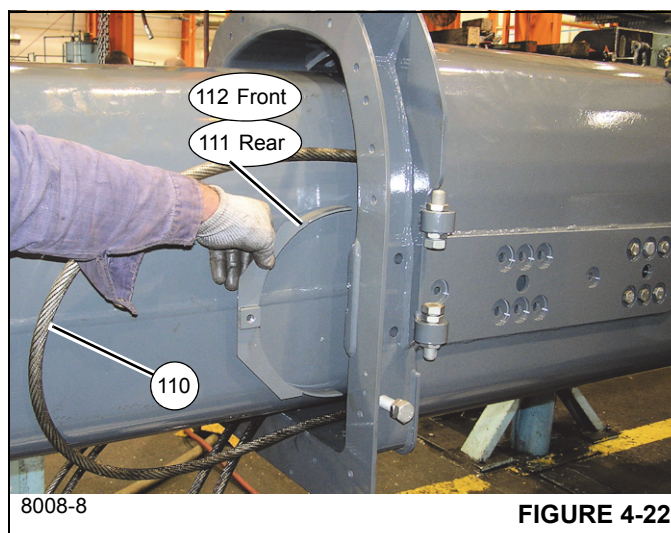

FIGURE 4-22
73. Extend tele 4 (5) one-quarter of the way out of tele 3 (4).
74. Remove the grease fitting (106) from each of the four shafts (104).
75. Remove the capscrew (113) securing the front guard weldment (112) over the tele 4 extend cable (110) (left and right sides) (see Figure 4-22).
78. Remove capscrew (113) securing the rear guard weldment (111) over the tele 4 extend cable (109) (left and right sides) (see Figure 4-22).